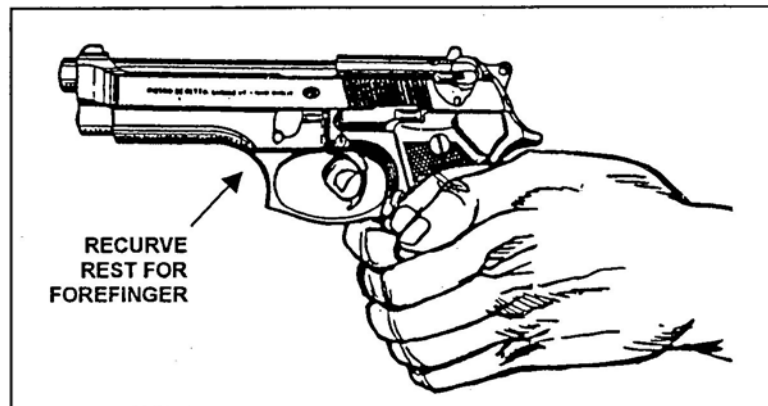

Figure 3. Fist grip.
b. Unsupported grips. You may use any of three nonfiring hand grips to support your firing hand (Figures 3, 4, and 5).
- (1) Fist grip (Figure 3). Begin by gripping the weapon as previously described (Task Step 3). Firmly close the fingers of your nonfiring hand over the fingers of your firing hand. Make sure the index finger of your nonfiring hand is between the middle finger of your firing hand and the guard. Place your nonfiring thumb beside your firing thumb.